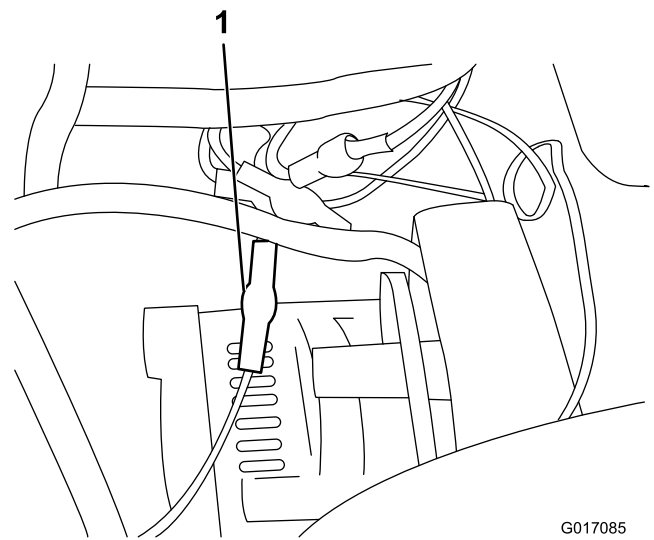

Figure 7
9. Connect the wire to one of the available terminals from the fuse block (Figure 7).